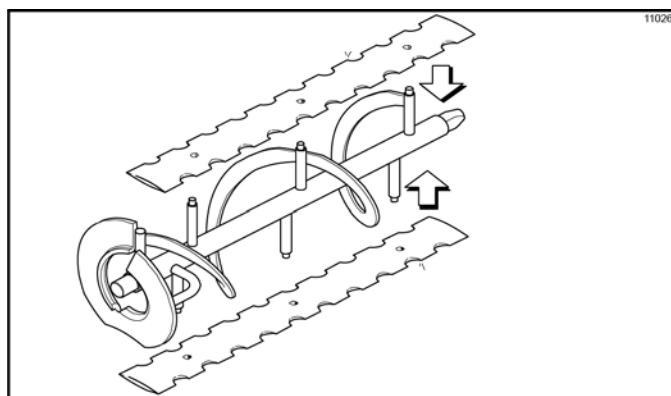

Figure 6-4
4. If the blades are in good condition, place each scraper blade over the holding pins on the beater assembly. (See Figure 6-4.)